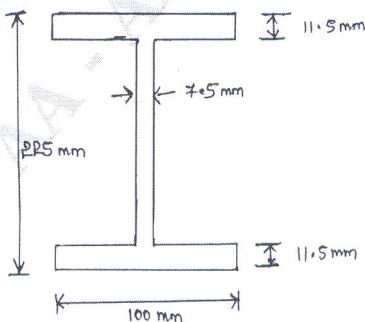

Fig.Q.6(b)
- b. An I-section as shown in Fig.Q.6(b) is simply supported over a span of 12m. If the maximum permissible bending stress is  $80\text{N/mm}^2$ , what concentrated load be carried at a distance of 4m from one support. (14 Marks)